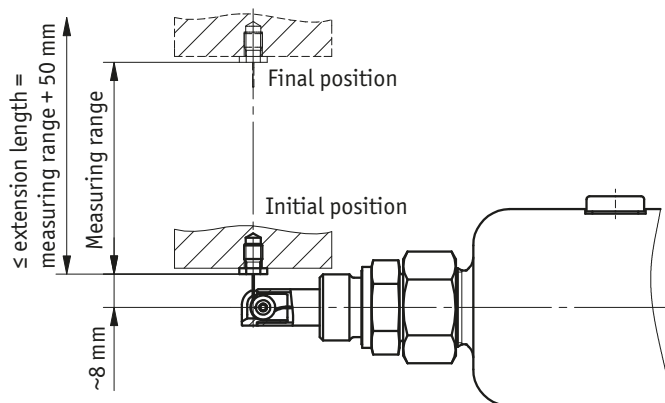

Fig. 1: Extension length check
- ▶ Do not extend the wire beyond the specified maximum extension length (see Fig. 1).
- ▶ Lay the wire at a right angle to the wire outlet (see Fig. 1).